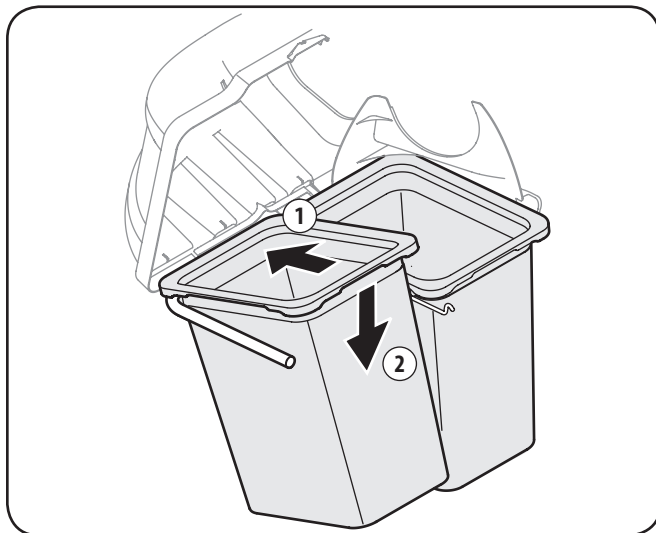

Figure 4-16
8. Install both bag assemblies onto the bag support brackets by inserting the front edge in first, as seen in 1 of Fig. 4-16, and setting the back edge down until it fits into the assembly (2).